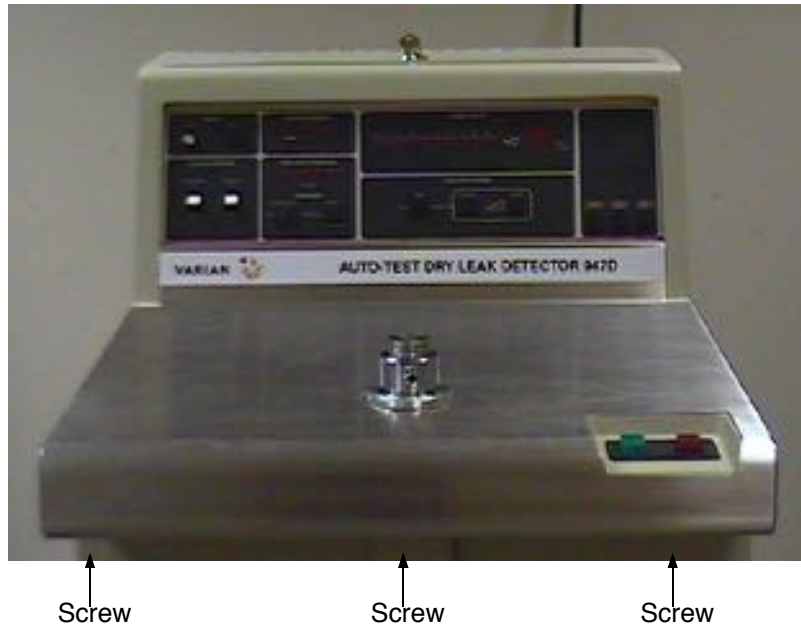

Figure B-4 The Top Panel from the Front of the 947/948/960
6. Remove the three, 5-16 screws from under the front of the top cover (Figure B-4).